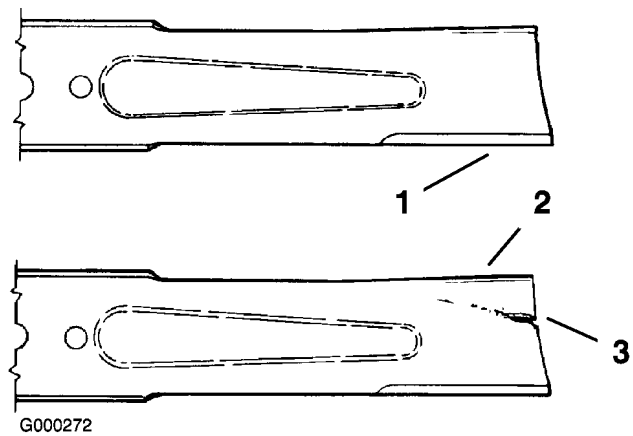

Figure 48
1. Inspect the cutting edges (Figure 48). If the edges are not sharp or have nicks, remove and sharpen the blades. Refer to Sharpening the Blades.
2. Inspect the blades, especially the curved area (Figure 48). If you notice any damage, wear, or a slot forming in this area (item 3 in Figure 48), immediately install a new blade.